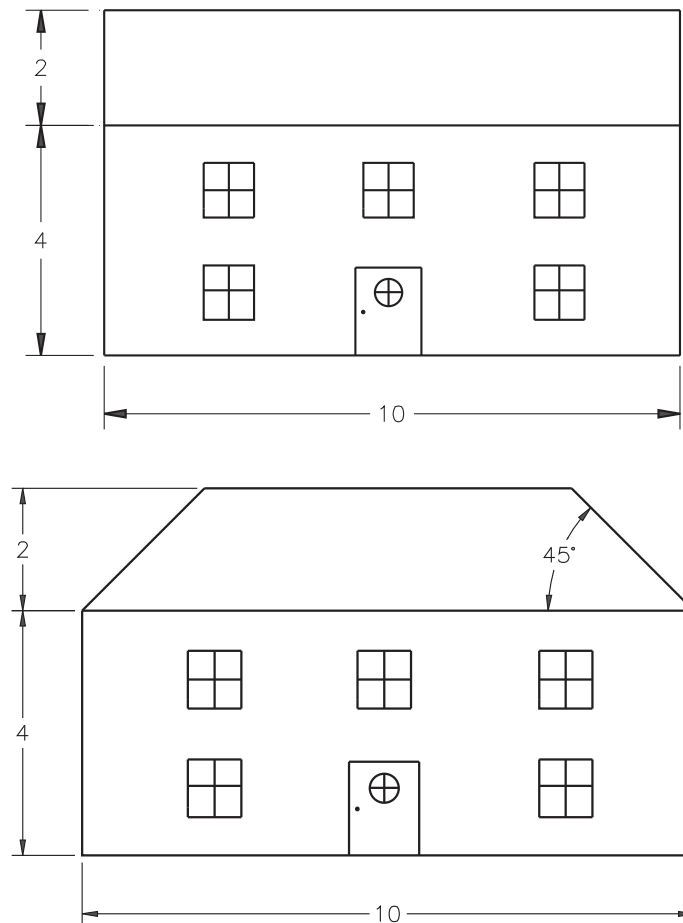

Fig. 6-11
2. Your architectural firm's customer wants the gable-end roof changed to a hip roof, as shown in Fig. 6-11. Draw the front elevation with both roof lines. Since this is only a roof line change, approximate the size and location of the windows and door. Save the drawing as **ch6-roof.dwg**.